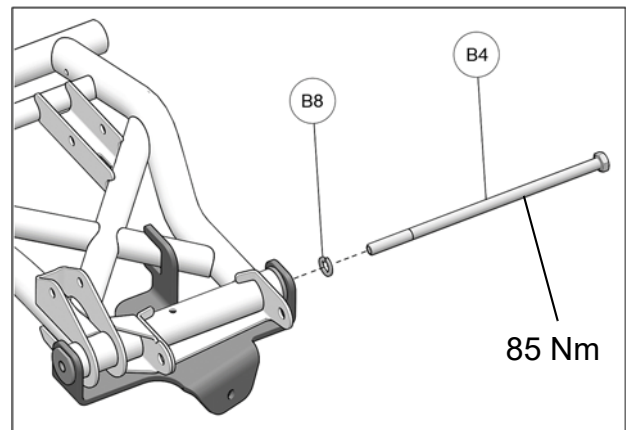

Fig. 8
8. Slide Lockwasher (B8) on M12x280mm bolt (B4); insert bolt through anchor bracket, T-Bushing (B5), and suspension arm until threaded T-Bushing (B6) is reached. Thread bolt in bushing and torque to 85 N•m [63 lb•ft]. See Fig. 8